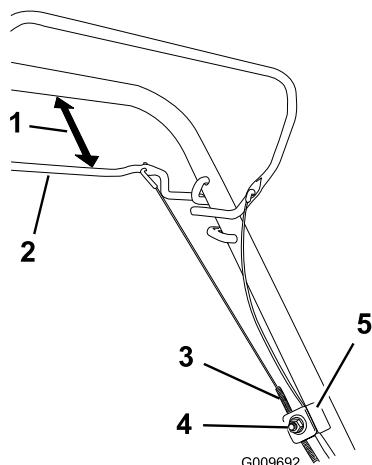

Figure 48
1. Loosen the cable support nut (Figure 48).
2. Hold the self-propel bail 1 to 1-1/2 inches (25 to 38 mm) from the handle (Figure 48).
3. Pull down the cable jacket (toward the mower) until there is no slack in the cable (Figure 48).